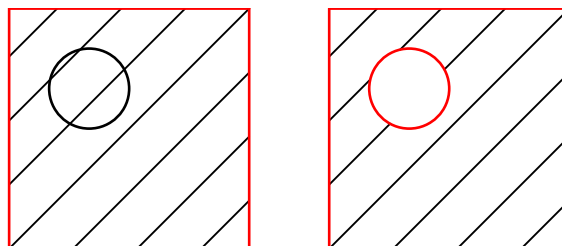

Figure 46: Islands which are selected will not get hatched through (right).
3. Select the contour(s) you want to fill. Note that islands inside contours will get hatched if they are not selected (Figure 46)